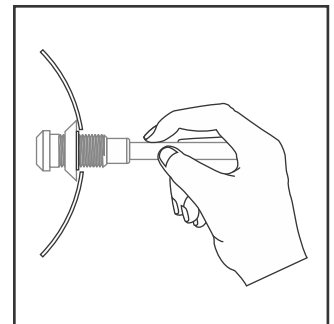

Fig. 45: Seat the Seal
6. Seat the Seal: With the seal inside the duct and positioned on the test port shoulder, seat the seal lip in the hole by firmly pulling the handle so that the test port threads slide through the seal and protrude from the duct hole. Ensure that the seal lip is still seated in the hole. (Fig. 45)